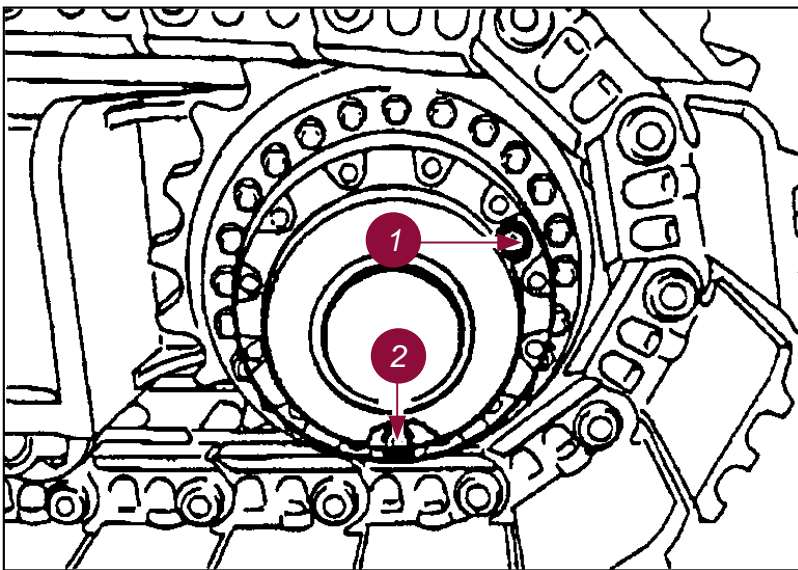

Fig. 3-28 Final Drive Position for Oil Filling and Draining
1. Machine must be on level surface. Position final drive so drain plug is at bottom and fill plug is at position shown in fig. 3-28.
5. When changing oil, machine must be on level surface and final drive in position as shown in fig. 3-28. Place an 'Personal Danger and Out of Service' tag on the ignition switch. Place a suitable container under the drain plug. Remove drain plug and fill plug.